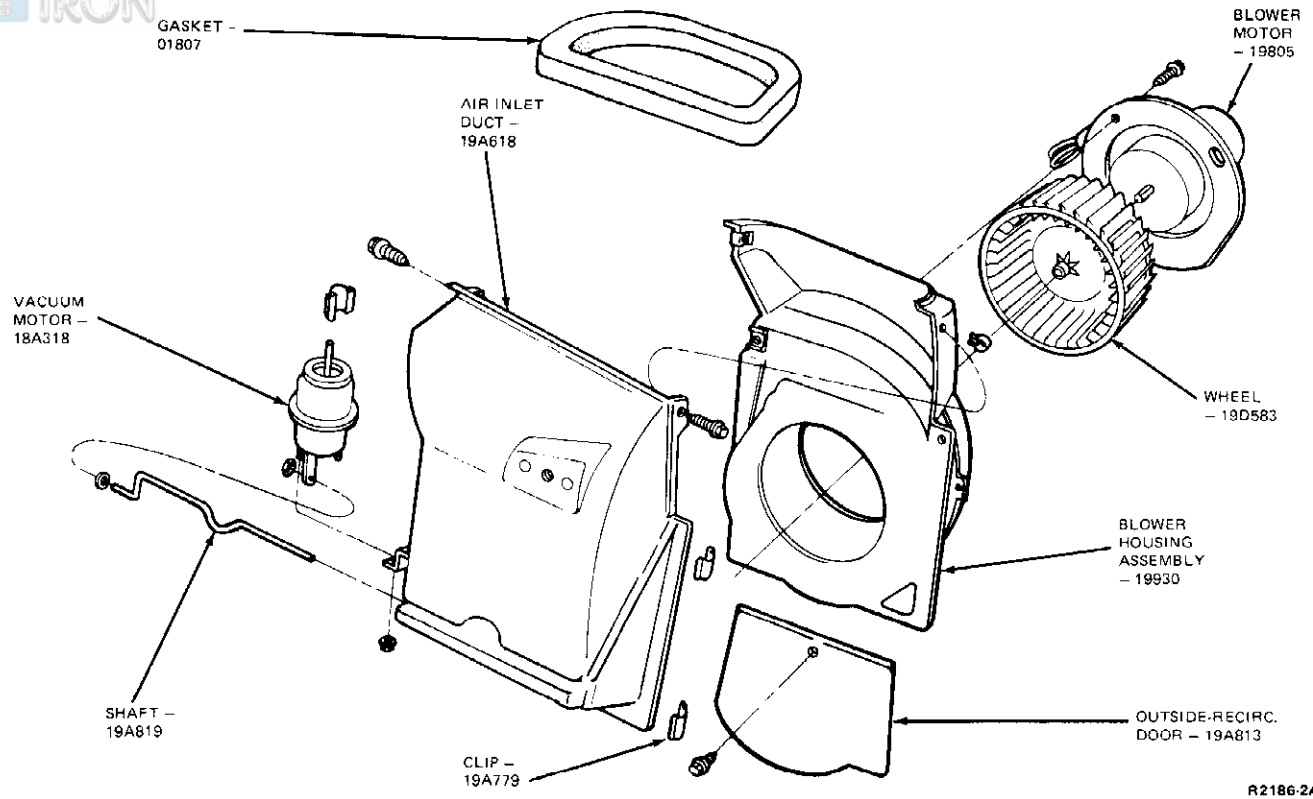

FIG. 35 Air Inlet Duct and Blower Housing Assembly Disassembled
2. Remove four blower motor mounting plate screws and remove the blower motor and wheel assembly from the blower housing (Fig. 35). **DO NOT remove the mounting plate from the motor.**